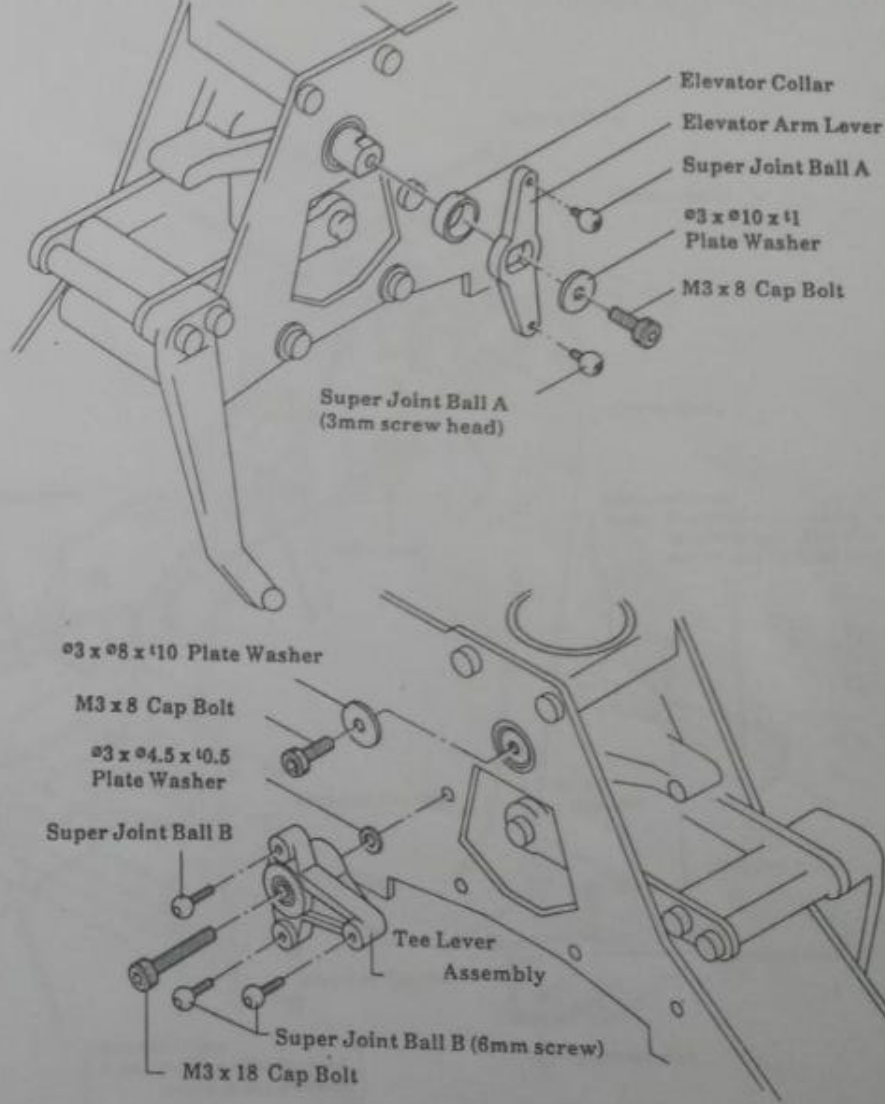

Fig. 9
(See Fig. 9)
- 22 Attach the tee lever to the side of the frame, making sure to use plate washer $\varnothing 3 \times \varnothing 4.5 \times \varnothing 0.5$ as shown in Fig. 9.